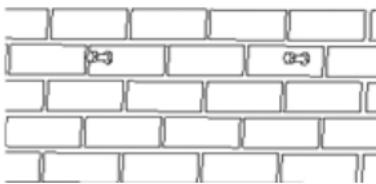

Fig 2-5 Fix screws
- 4) Wring two ST3×25 screws into wall plugs, and keep the screw head 5mm space outside. Fig 2-5 as below